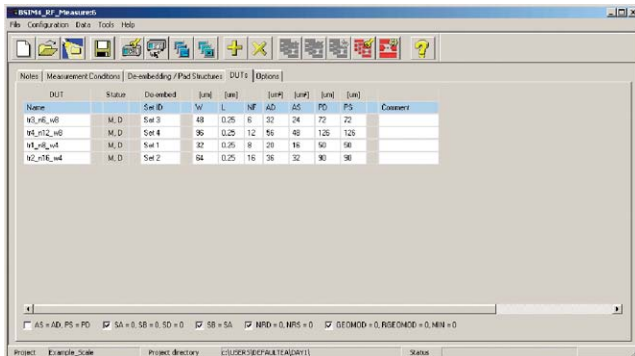

Figure 4: RF Measurement user interface for quickly adding new RF devices into the template.
3. Add devices and test structures with specific dimensions, as shown in Figure 4. Click on Calibrate to perform the automatic calibration. Click on Measure to start the DUT measurements. Click De-embed All to start automatic de-embedding procedures. The data is ready for RF model extraction.